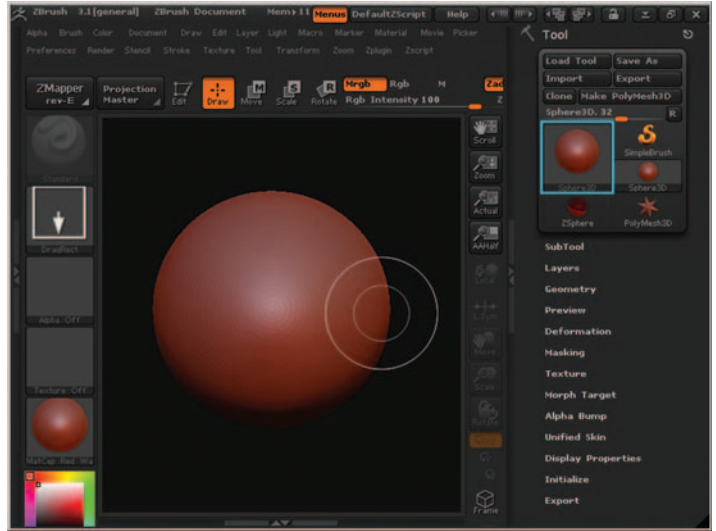

Figure 11.24 Sphere3D displayed in Tool menu and created in the work area.
3. Left-click and create a Sphere3D object in the viewport. Figure 11.24 shows Sphere3D displayed in the Tool menu as well as created in the viewport.